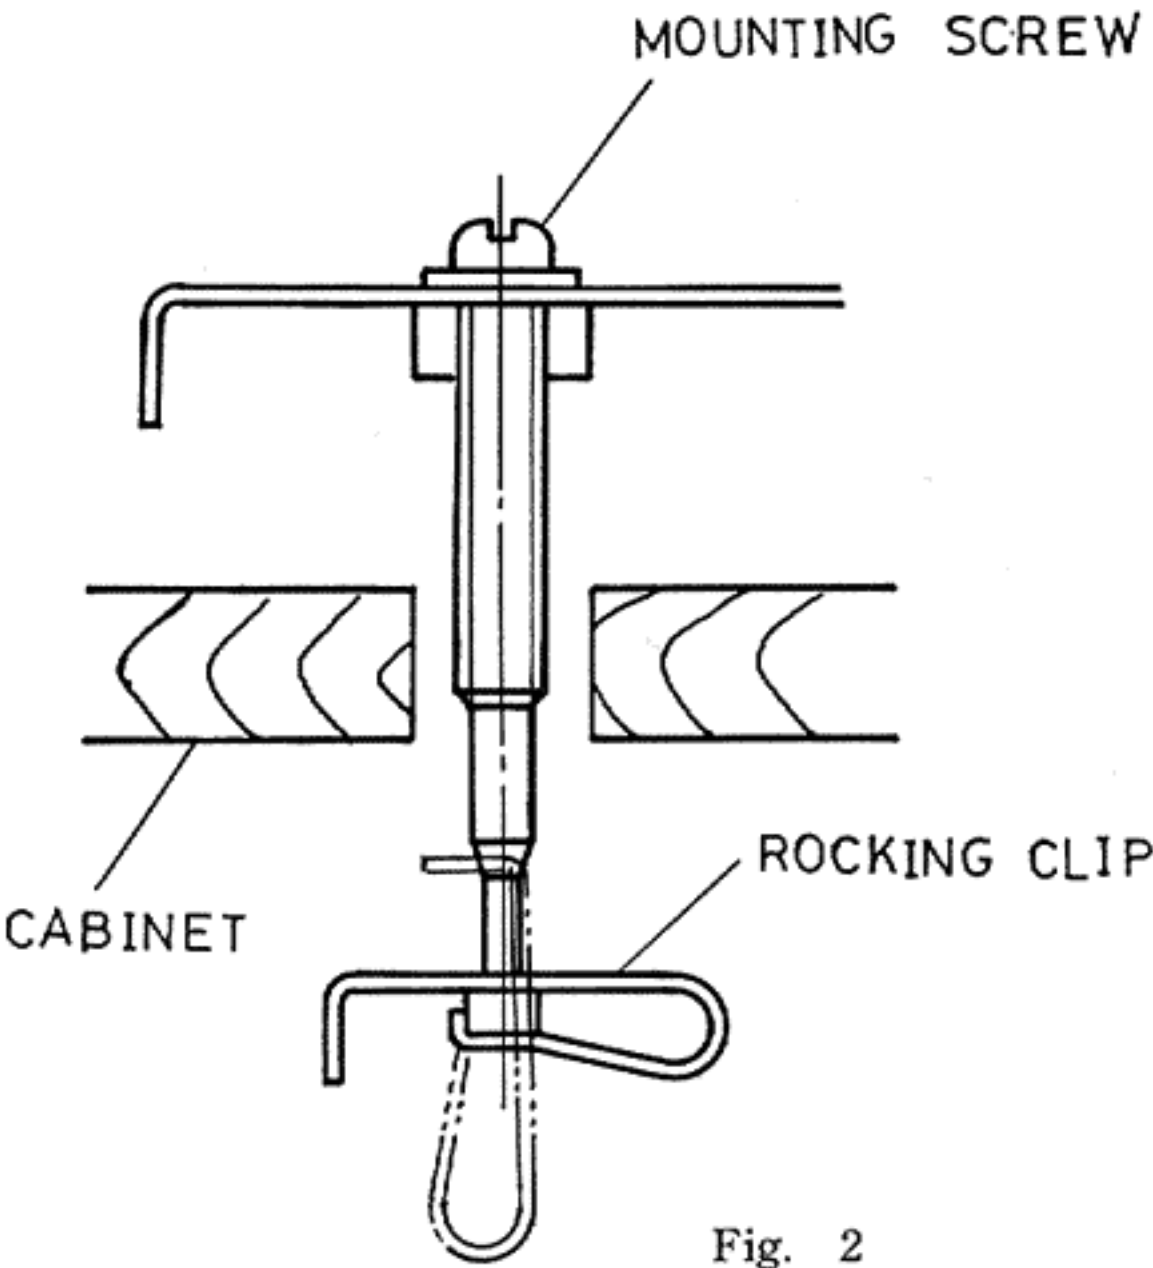

Fig. 2
- a. Unwrap the Record-Changer and turn the Mounting Screw clock-wise as shown in Fig. 2. Changer is now detached from cabinet and is floating. (Fig. 2)